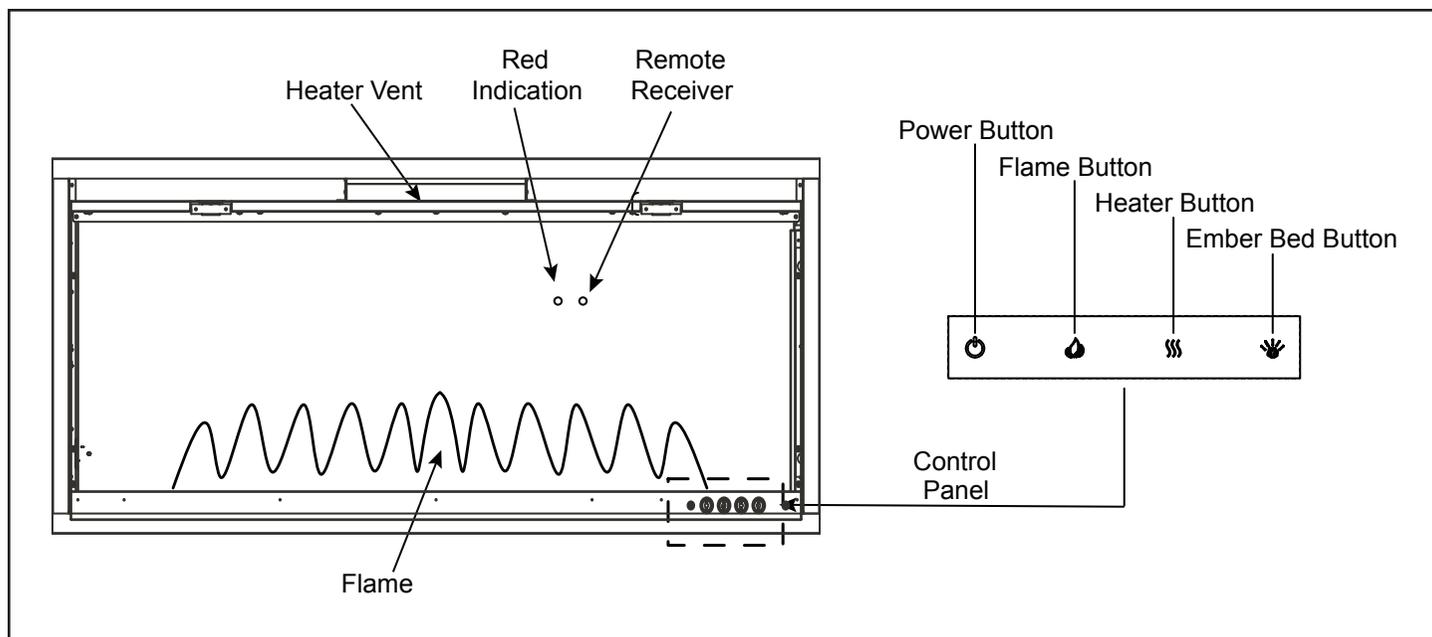

Figure 5.1 Manual Operating Switches
The appliance can be operated by both remote control and touch control buttons. Once the unit has been properly connected to a grounded electrical outlet, turn on the power button located on the lower right side of the appliance. A beep should be heard when the power is first applied. See Figure 5.1.
- The remote control must be within the 16 ft. range and also be pointed directly at the face of the appliance. For best results, point the remote control toward the remote receiver location. See Figure 5.1.